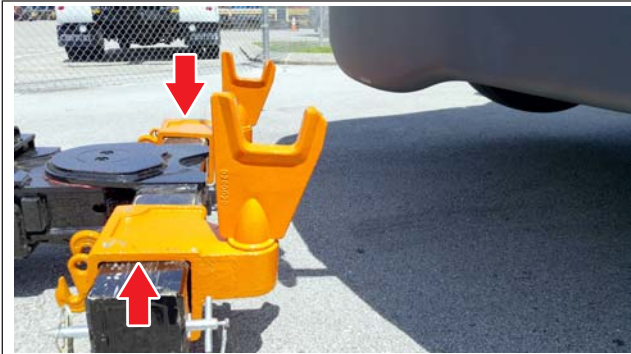
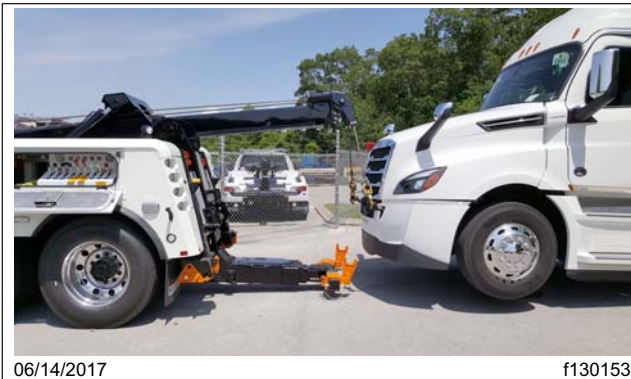

Fig. 24.13, Lift Adaptors Installed on the Crossbar
Fig. 24.14, Backing the Tow Truck with Lift Adaptors on the Crossbar
8. Use mid-rise or high-rise forks, or lift adaptors (part number 0200020) on the crossbar to provide clearance for the aerodynamic bumper. See Fig. 24.13 and Fig. 24.14.